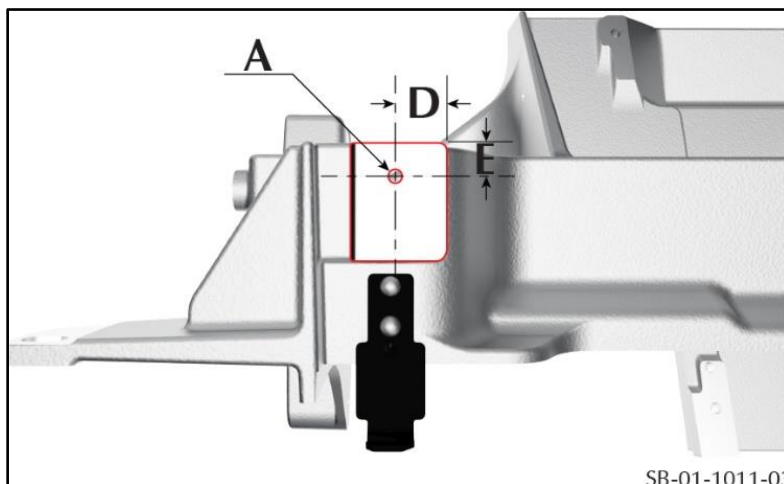

Figure 8
Figure 8 shows the new design of the cross-car beam assembly. The hole (A) that has a thread for the M6 bolt is:
- 17.6 mm from the inboard edge (D)
3. Mark the position of the new design hole center with a center punch and hammer (refer to the dimensions from Figure 8).